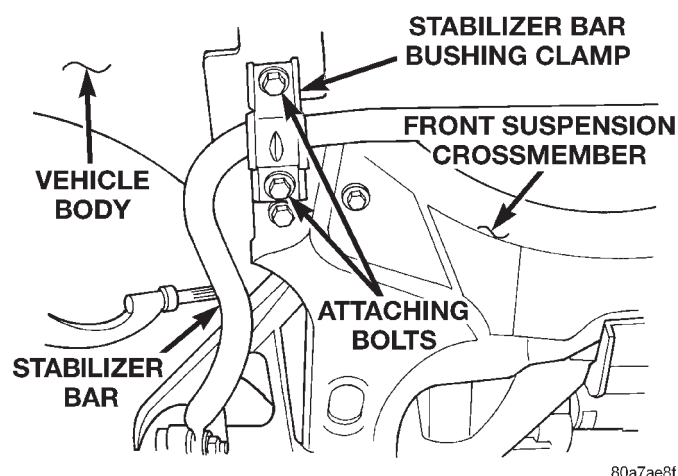

Fig. 12 Stabilizer Bar Bushing Clamp Attaching Bolts
(10) Remove the stabilizer bar bushing clamp to body attaching bolts only (Fig. 12). The sway bar bushing clamp to front suspension crossmember bolts (Fig. 12) do not need to be removed
(13) Install the 2 stabilizer bar bushing clamp to body attaching bolts (Fig. 12) and securely tighten.